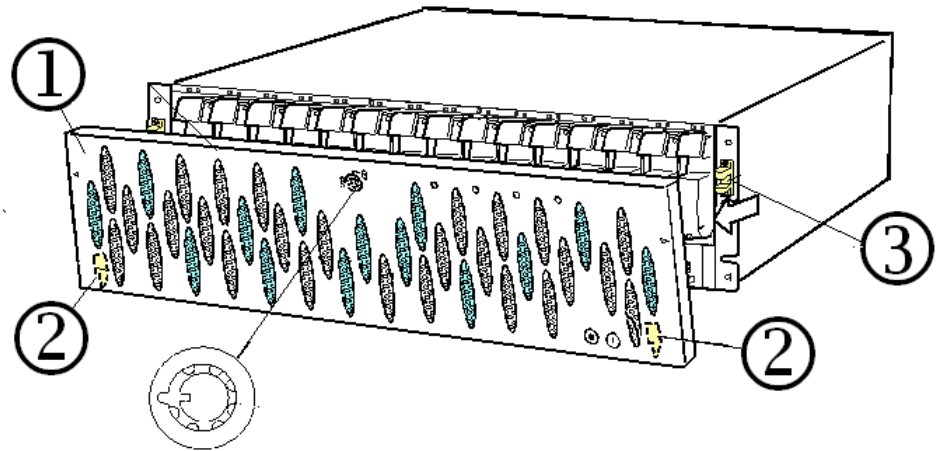

Figure 5-26: Removing the Front Bezel
3. Disengage the two hooks of the front bezel from the slots on the array chassis by shifting the bezel to the left, and remove the bezel. See Figure 5-26. Also, see the illustrations in Chapter 4 for more details.